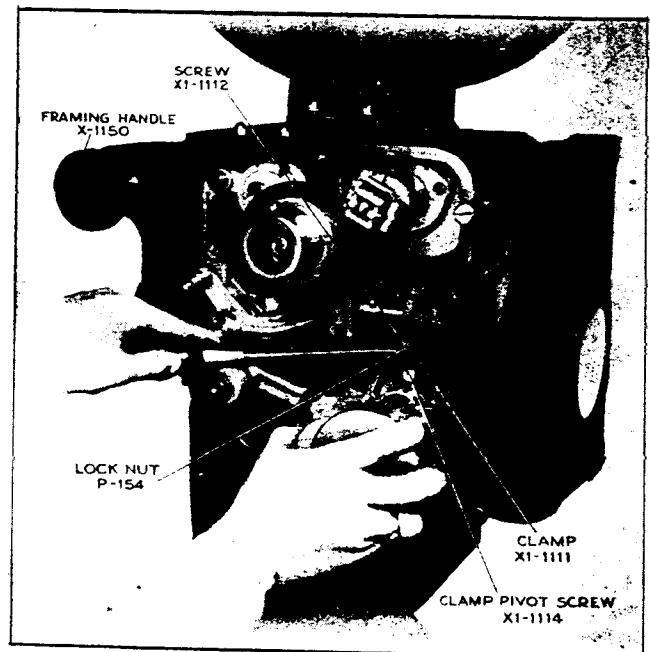

Figure 4—Removing Intermittent Assembly
3. Loosen the locknut, P-154, and back off screw, X1-1112, releasing the steel clamp, X1-1111, which holds the intermittent assembly in place. See Figure 4.
4. Move the steel clamp upward about $\frac{1}{4}$ inch by placing a screw driver under screw X1-1112 and lifting. At the same time grasp the intermittent with the right hand as shown in Figure 4 and pull it forward with a slight twisting motion.